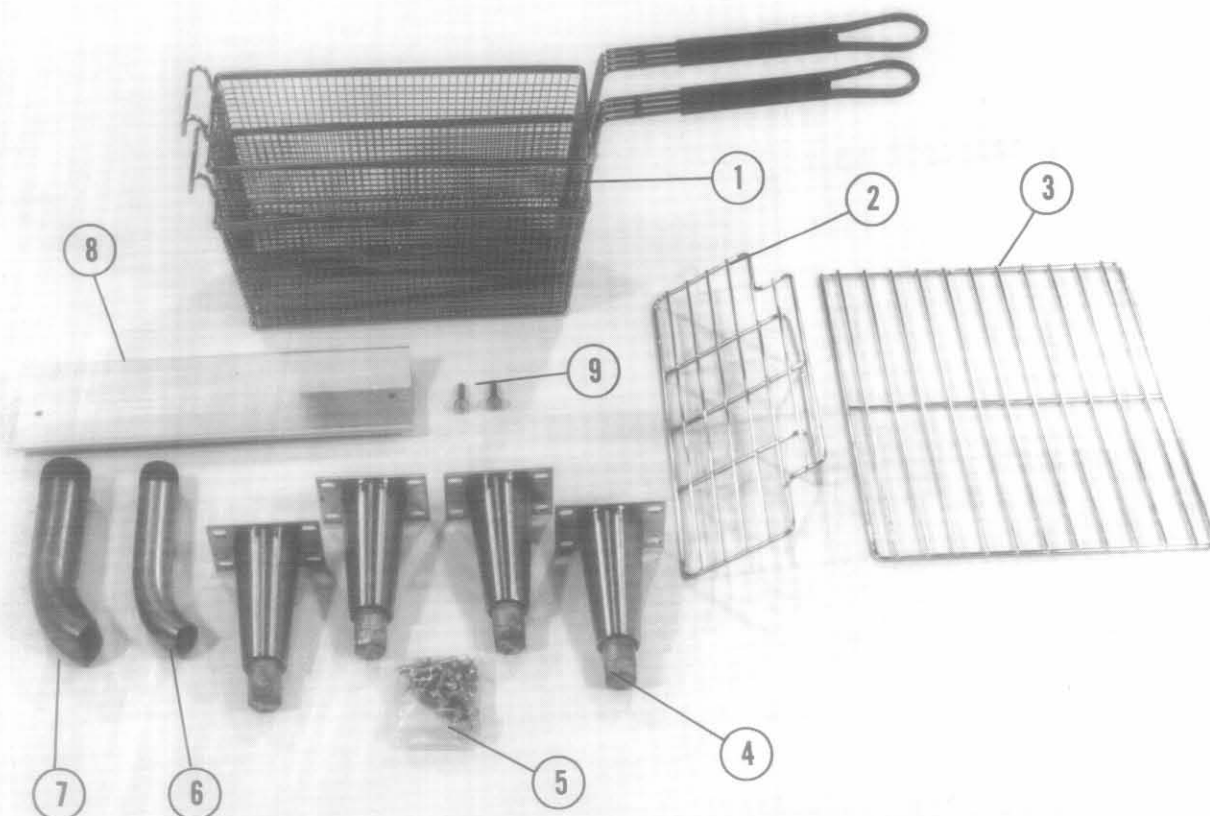

Figure 15
16. PARTS LIST (CONT'D)-Accessories (Refer to Figure 15)